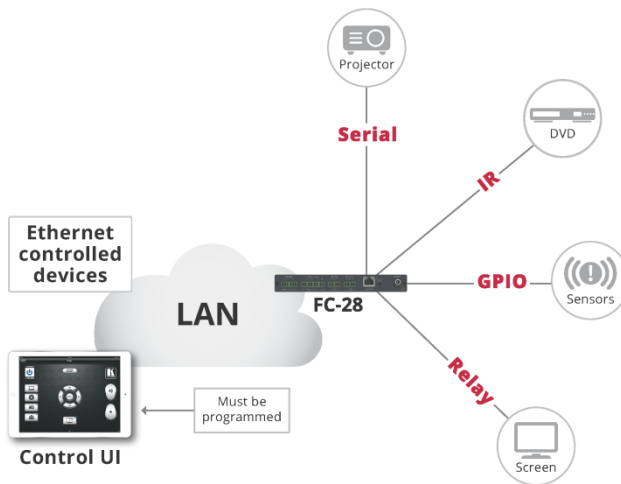

Figure 1: FC-28 Controlling Devices Remotely Using K-Touch 3.0 over a LAN
- Working in conjunction with K-Touch 3 for remote control of devices over an Ethernet LAN via I/O interface connections, (see Figure 1)